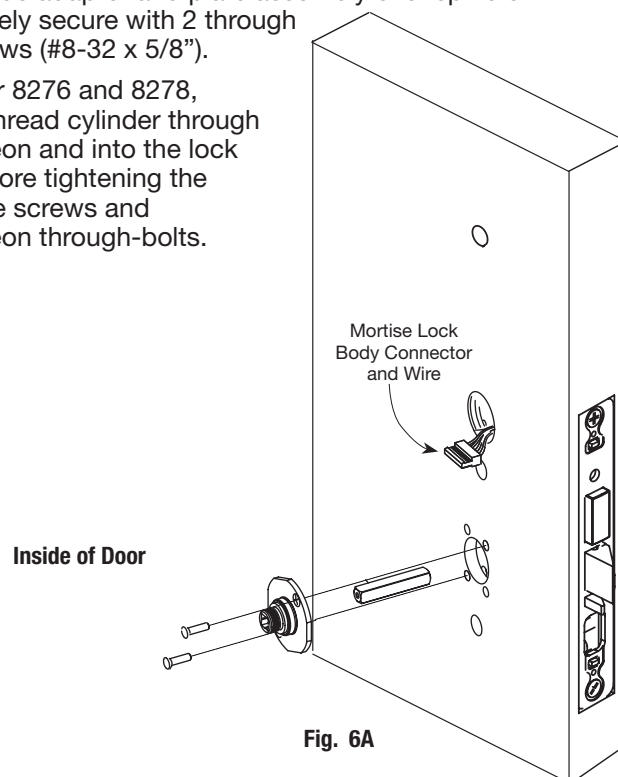

Fig. 6A
- 1A. **For 12- fire rated doors:** Feed ribbon cable with connector and ground wire from outside of door through weather seal gasket and fire stop plate (Fig. 6A).